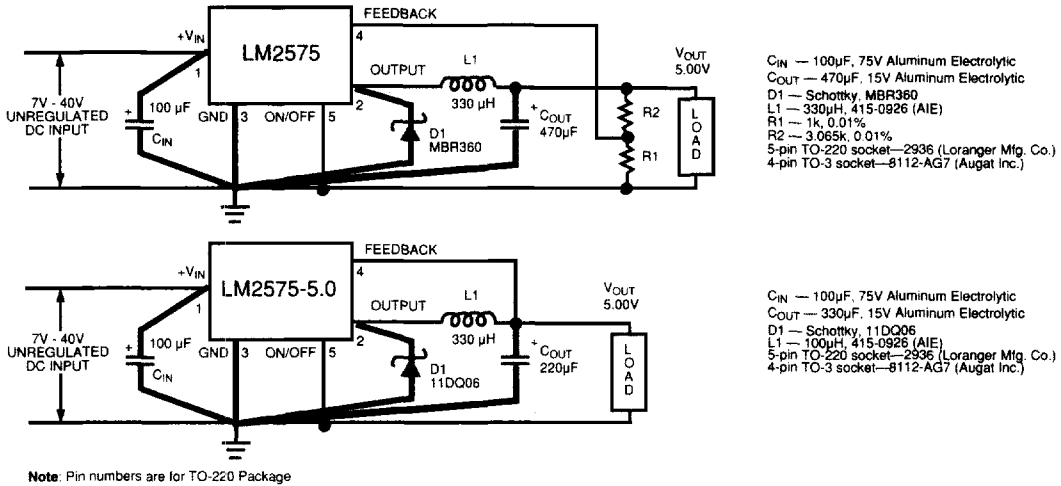

Figure 1.
SYSTEM PARAMETERS, ADJUSTABLE REGULATORS (Note 3) Test Circuit Figure 1
SYSTEM PARAMETERS, 3.3V REGULATORS (Note 3) Test Circuit Figure 1
SYSTEM PARAMETERS, 5V REGULATORS (Note 3) Test Circuit Figure 1
SYSTEM PARAMETERS, 12V REGULATORS (Note 3) Test Circuit Figure 1
SYSTEM PARAMETERS, 15V REGULATORS (Note 3) Test Circuit Figure 1
ON/OFF CONTROL, FIXED and ADJUSTABLE REGULATORS Test Circuit Figure 1
**Note 3:** External components such as the catch diode, inductor, input and output capacitors can affect switching regulator system performance. When the LM2576/LM1576 is used as shown in *Figure 1* test circuit, system performance will be shown in system parameters section of Electrical Characteristics.
Typical Performance Characteristics (continued) (Circuit of Figure 1)
## Typical Performance Characteristics (Circuit of Figure 1)